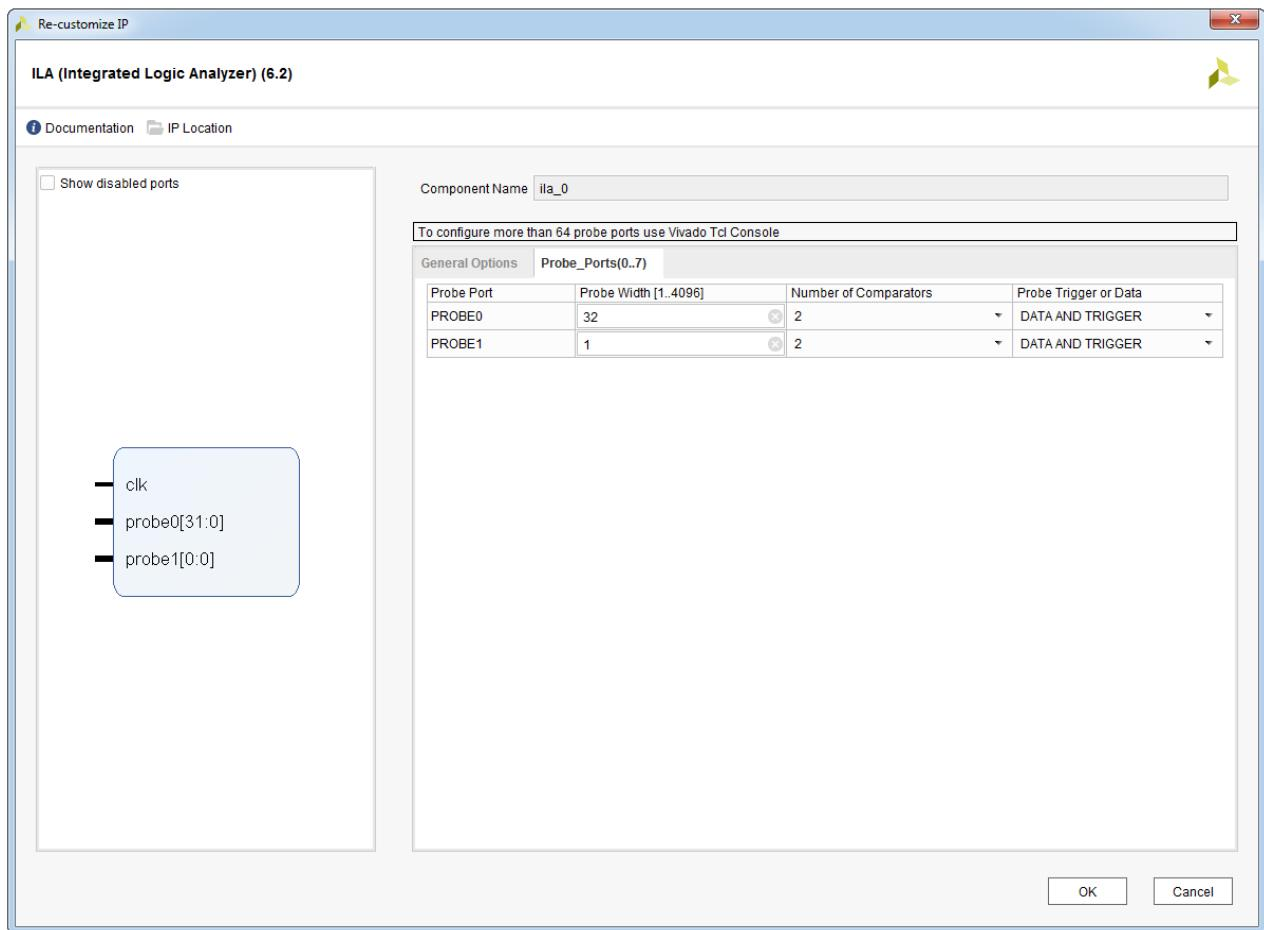

Figure 12.58: Integrated Logic Analyzer (6.2)) Re-customize IP dialog box - Probe_Ports(0..7)
- set **32** bits as **Probe Width[1..4096]**, as it is shown on the Figure 12.58, and